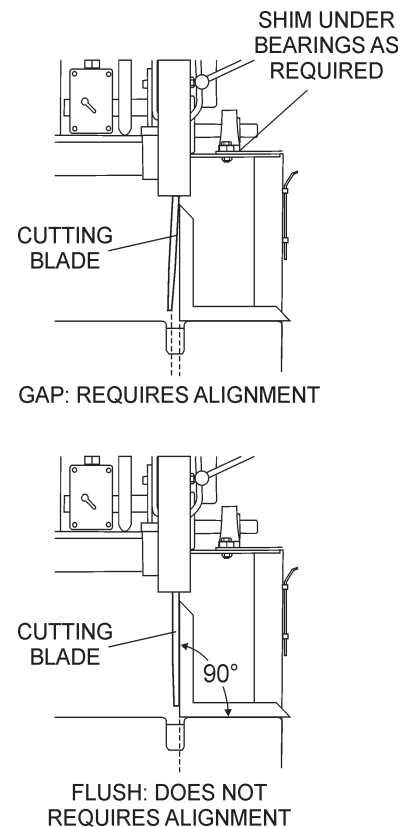

Figure 29. Cutting Head Alignment (Vertical)
1. Using a square or other straight edge device, check the vertical alignment of the blade by placing the bottom of the square on the conveyor cart and the side of the square against the blade (Figure 29).